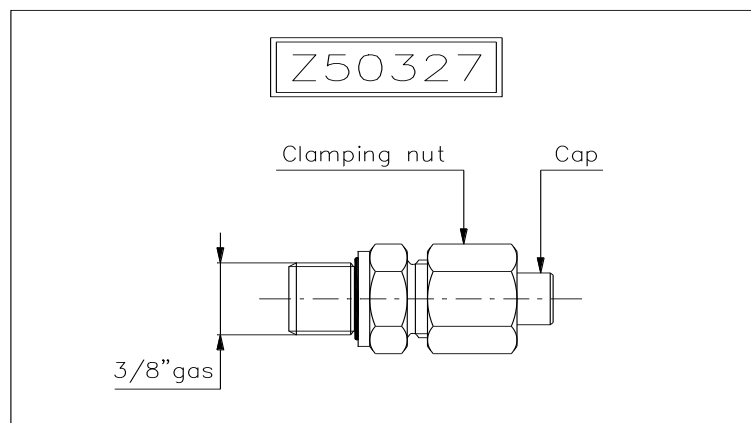

Figure 2
5. The brake is supplied with a bleed vent (Z50327). To bleed air out of the circuit, loosen the retaining nut of the fitting and pull the tubular cap outward. After bleeding off the air tighten the fitting again (Figure 2).